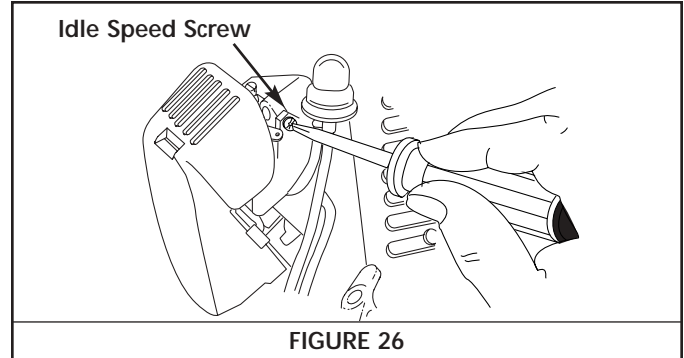

FIGURE 26
The idle speed of the engine is adjustable through the air filter/muffler cover. See Figure 26.
2. Release the throttle trigger and let the engine idle. If the engine stops, engage the idle speed screw with a small screwdriver. See figure 26. Turn the idle speed screw in, clockwise, 1/8 of a turn at a time (as needed) until the engine idles smoothly.